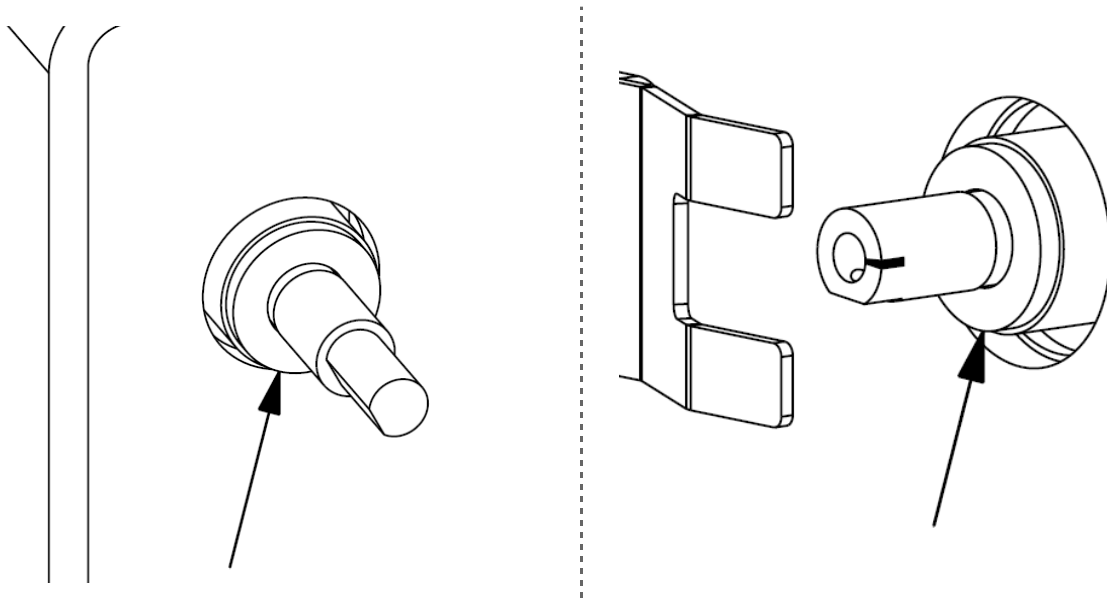

Figure 7-16: Inner bushing removal
24. Insert both inner bushings into the outer bushings of both enclosures. Reference **Figure 7-16**.